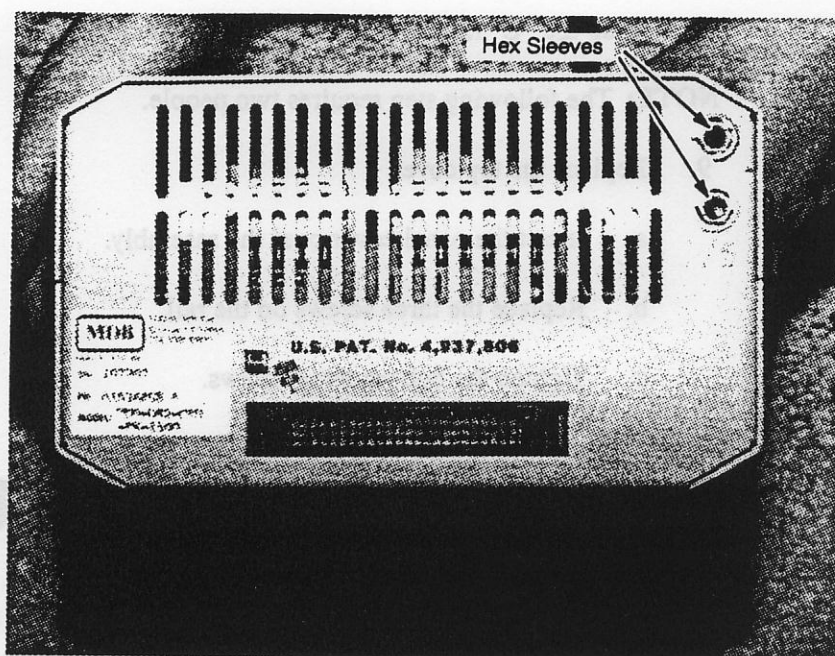
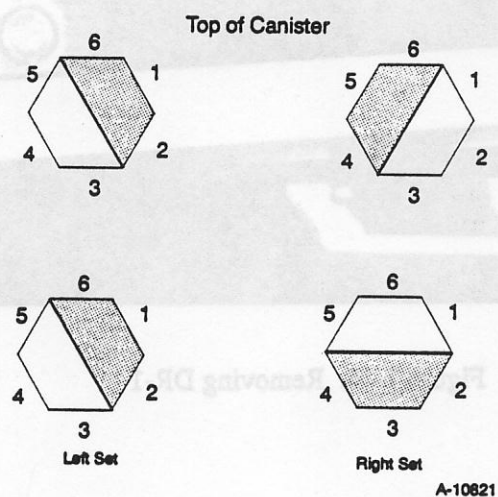

Figure 7-47. DR-1 Data Shuttle (Inside Back View)
Figure 7-48. DR-1 Keying Example
6. Position the hex sleeve (Figure 7-47) according to the combination assigned to that drive. An example of keying is shown in Figure 7-48. The combination in the example is 1/1 (left set of keys) and 5/3 (right set of keys).